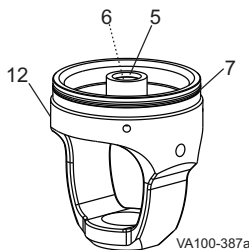

Figure 33: Remove Yoke O-ring and Guide Bearing
2. Remove the yoke (Figure 33, item 4). Inspect the lower stem O-ring (item 6) and cylinder O-ring seals (item 7).
4. Remove the PTFE guide bearing (Figure 33, item 5) by placing a screwdriver behind the bearing to pry it away from the wall of the yoke. Use needle-nose pliers to grip and remove the bearing.